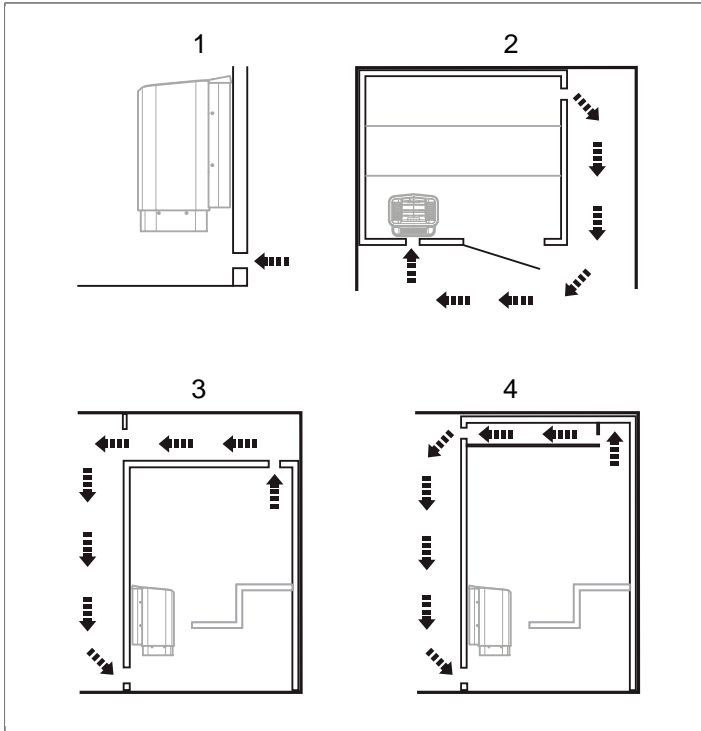

Figure 7: Positioning the inlet and outlet vents
- at the maximum possible distance from the inlet vent, e.g. diagonally (see **Figure 7**, Page 4).
- high on the wall or in the ceiling (see **Figure 7**, Page 4).